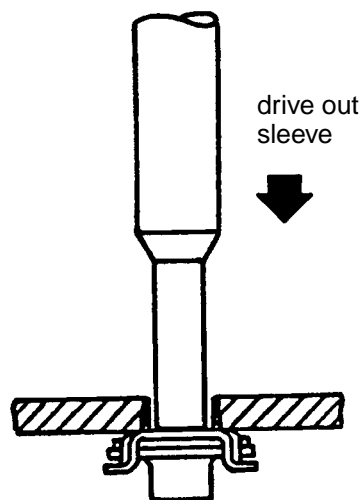

Figure 12 - Removal of Installed Nut Plate
- Step 1. Using an 82° or 90° countersink tool, carefully machine off the corner of the flare as shown in Figure 12. Take care to machine just through or almost through the corner of the flare.